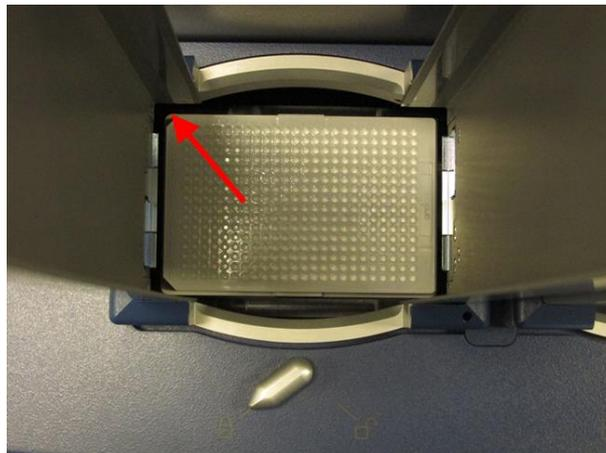

Figure 16
4. Click the 'Put plate' button and again watch the plate being raised (from the same angle of as shown in Figure 16). This time the plate should hit the left hand magnetic clamp.
3. Click 'Put Plate' from stack 2 (right side) and watch the plate being raised into stack 2 (from the same angle of shown in Figure 16).